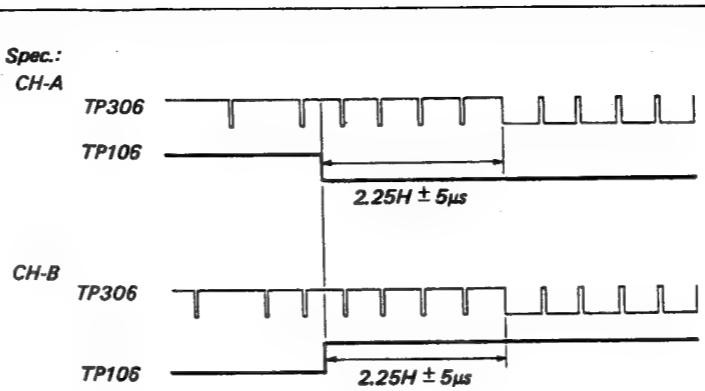

fig. 1
- (3) Set the CTL/TC/DIAL MENU switch to "DIAL MENU" and set the REMOTE/LOCAL switch to "LOCAL".
- (4) Press the Search Dial and put the unit into the JOG mode.
- (5) While pressing the MENU button, turn the search dial so that the counter value is set to "505".
- (6) Turn the Search Dial and blink the left column of the Time Counter. While pressing the DATA button, turn the dial and adjust to "8".
Adjust the second column from the left of the Time Counter to "b" as described in step (5). (fig.1)
- (7) Press the S102 or S103 and adjust the waveform (CH-B) to meet the required specification.